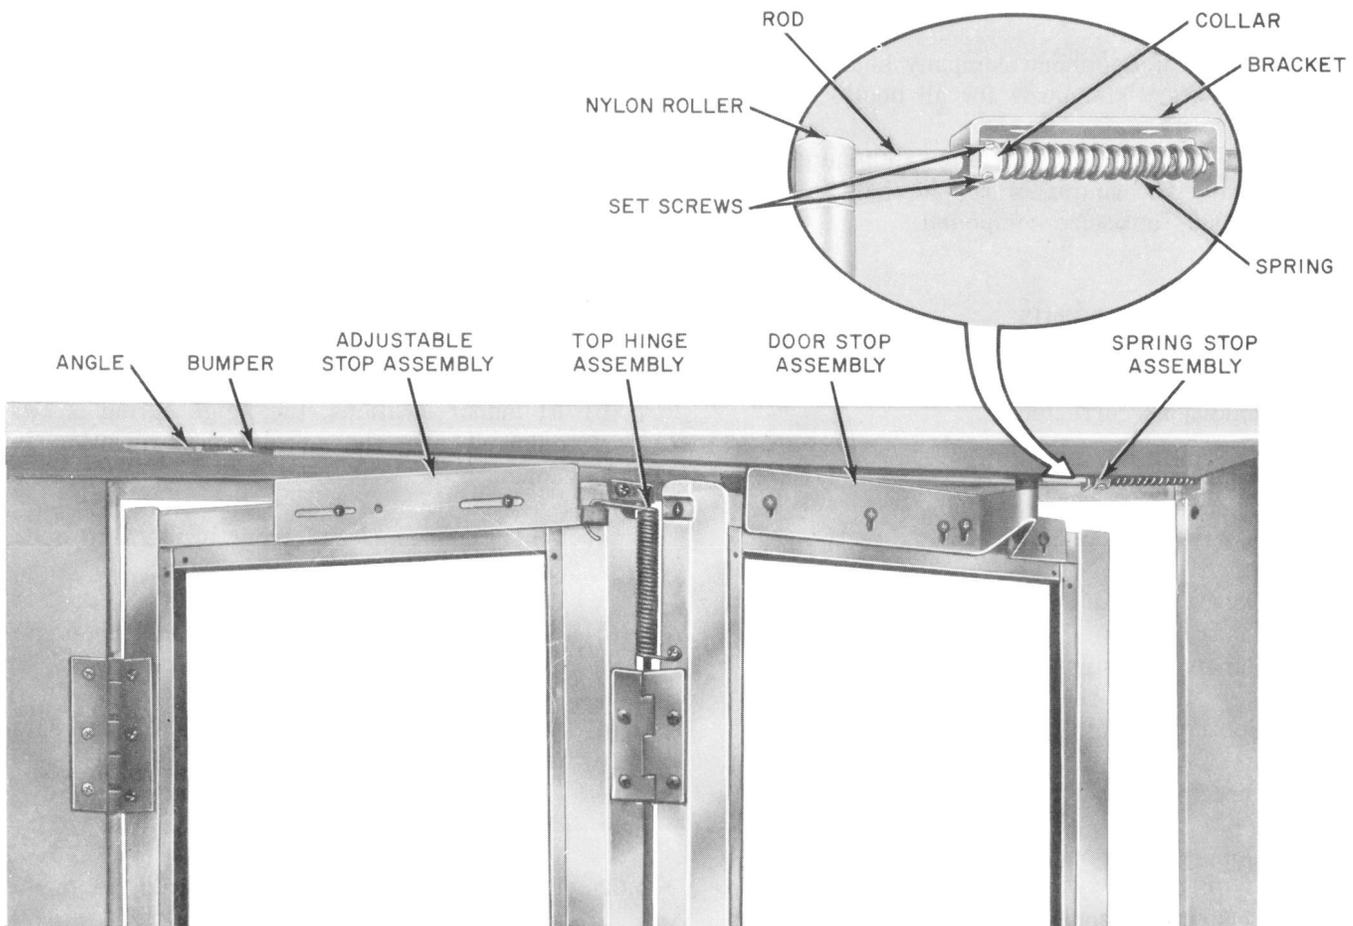

Fig. 1—KS-16797 Booth Door Adjustment
4.02 Door adjustments (Fig. 1) should be made in sequence as follows: